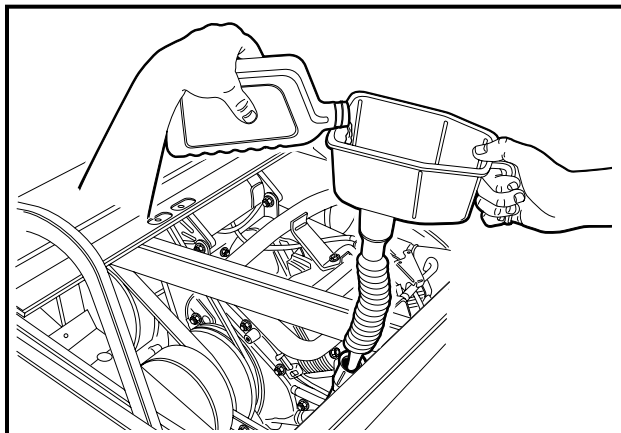
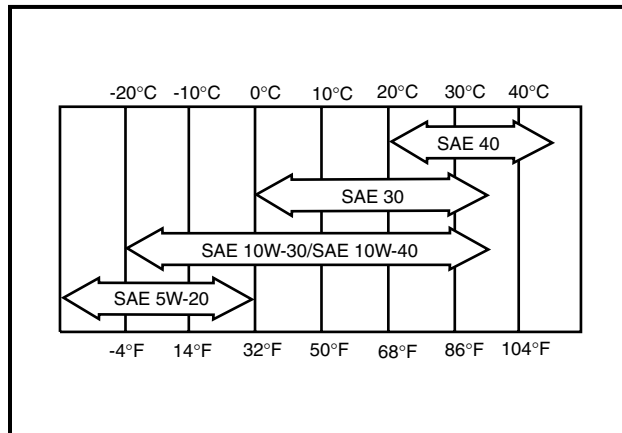

Figure 25 Add Engine Oil
Figure 26 Oil Viscosity Chart
15. Remove the dipstick and add engine oil into the dipstick port. Use a funnel or pour spout to direct the oil into the dipstick port (**Figure 25**). With filter change, the engine requires 38 ounces (1.12 liters) of oil per change. Refer to oil viscosity guidelines for selection of oil grade (**Figure 26**). Replace the dipstick.
Choose the viscosity according to the temperature as shown in the oil viscosity chart (Figure 26).